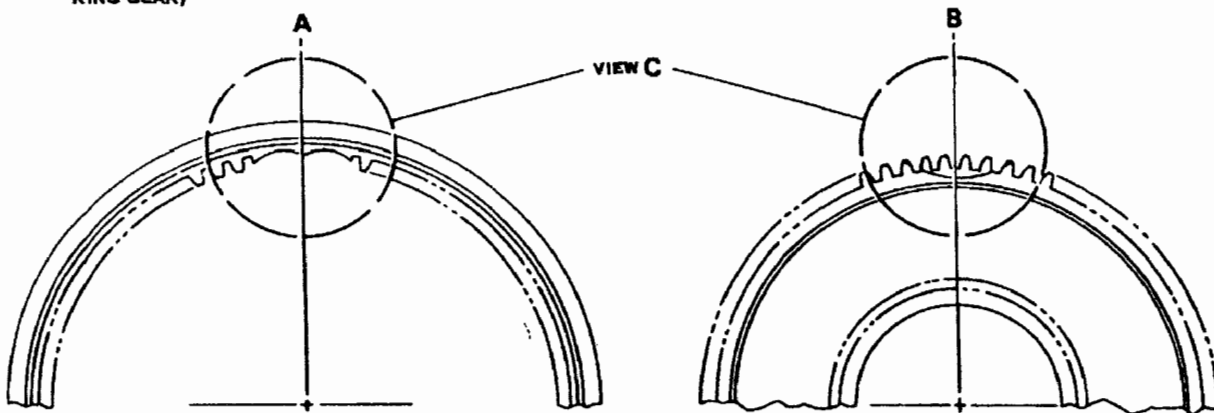

Figure 8. Assembly of the Ring Gear and the Carrier
(9) To assemble the starter with the synchronous engagement clutch, part number 803188-1, do these steps (Refer to Figure 8):
- (a) Put the synchronous engagement clutch and the ring gear, part number 750501-1, on a flat surface. The cutaway sections in the upper rows of each of the splines must be as shown in Figure 8.
- (d) Install the ring gear carrier. Align the centerline of the cutaway with the center in the cutaway section of the ring gear. Refer to Figure 8.